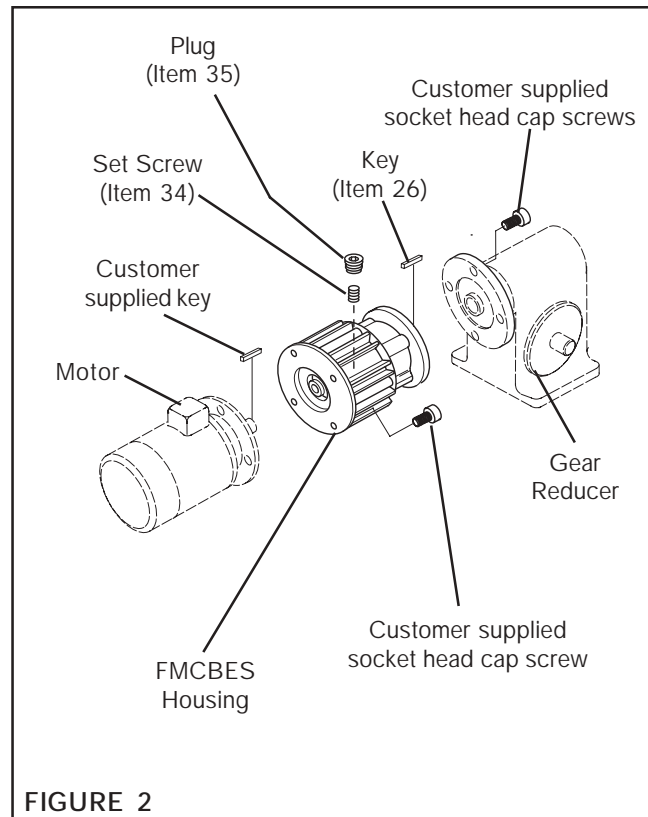

FIGURE 2
1. Insert the Key (Item 26) into the output shaft of the FMCBES (See Figure 2).
2. Slide the FMCBES output shaft into the gear reducer (See Figure 2).
3. Secure the FMCBES to the gear reducer using customer supplied socket head cap screws, lock washers, and nuts (See Figure 2).
4. Insert the customer supplied key into the motor shaft keyway (See Figure 2).
5. Slide the motor into the FMCBES and secure it to the FMCBES using customer supplied socket head cap screws and lock washers (See Figure 2).
7. Tighten the Set Screw (Item 34) and then install the Plug (Item 35) (See Figure 2).